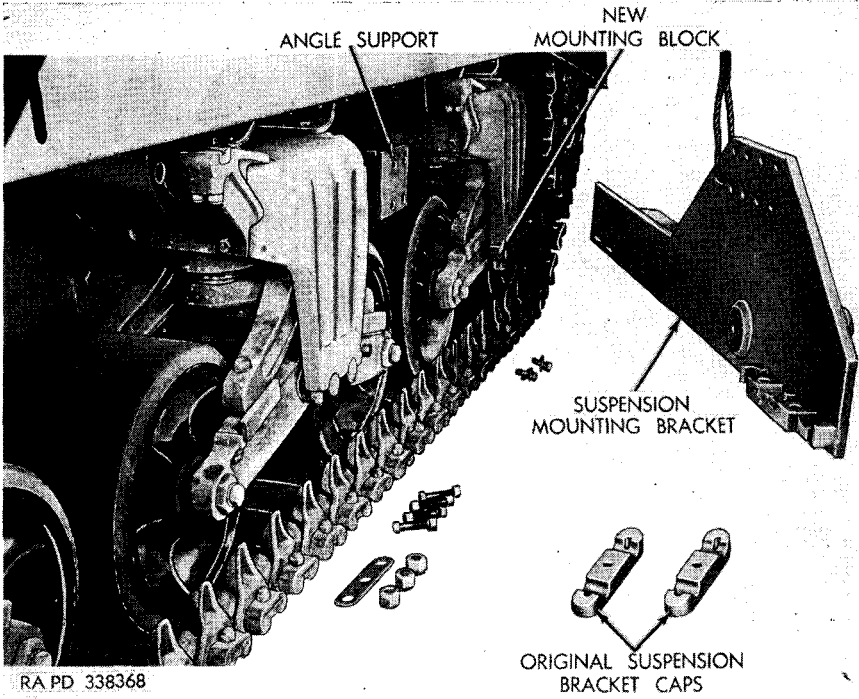

Figure 40. Installing suspension mounting*bracket.
a. INSTALL VERTICAL SUSPENSION MOUNTING BRACKETS. (1) *Standard vertical suspension tank (bulldozer M1)* (figs. 40 and 41.) Remove the first and second suspension bracket caps from each side of tank. These caps are surplus to the bulldozer installation. Install the suspension mounting block on the front suspension bracket on each side of the tank but do not tighten at this time. Fasten the angle support to the front side of the second suspension bracket on each side of the tank. Install the suspension mounting bracket and